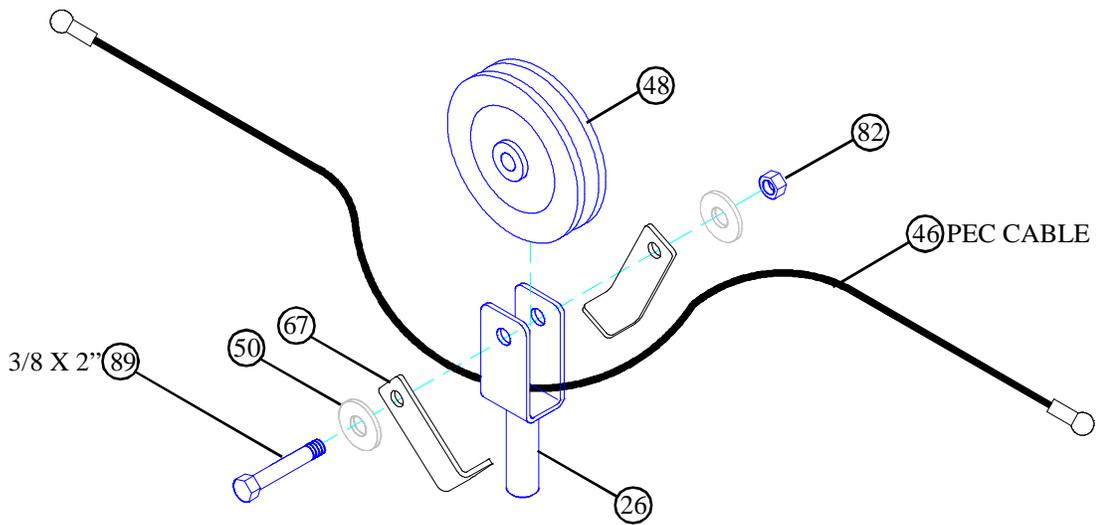

FIGURE 29
- Assemble one 4-1/2" PULLEY (48) around the PEC DEC CABLE (46) and to the PULLEY BRACKET (26) using one 3/8 X 2" BOLT (89), two 3/8" WASHERS (80), two 2-7/8 X 1" CABLE CLIPS (67) and one 3/8" LOCKNUT (82) as shown in FIGURE 29.